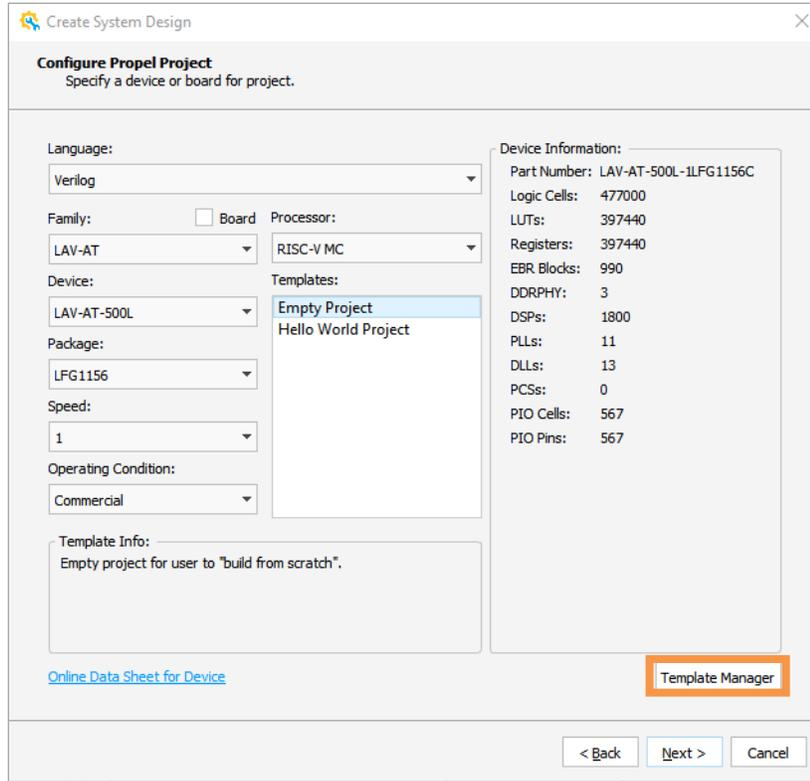
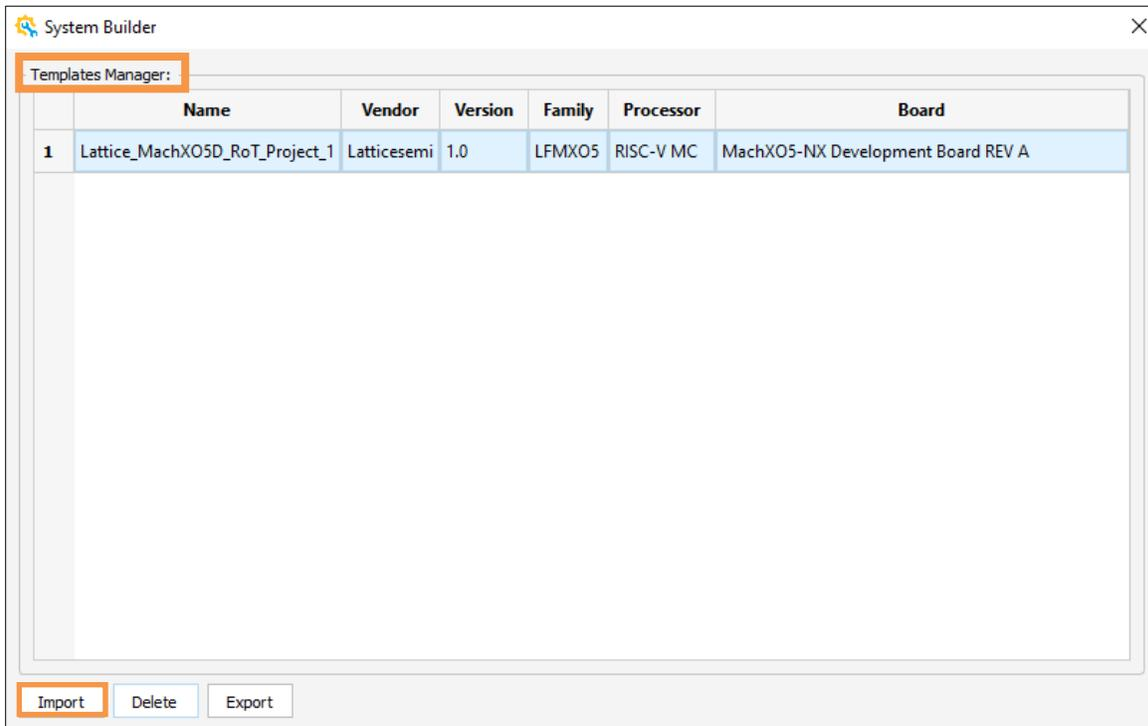
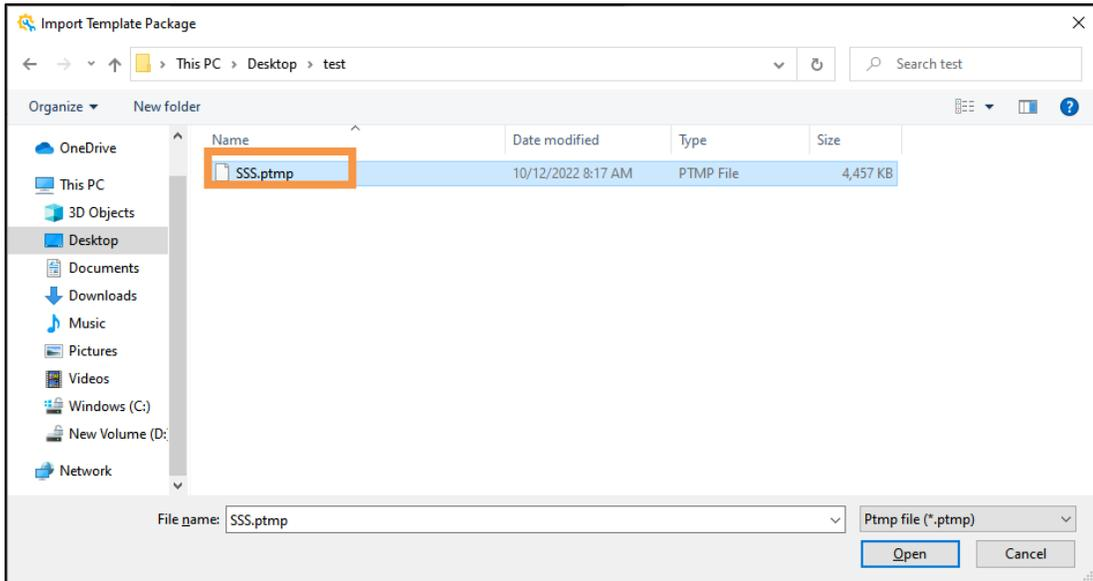

Figure 2.124. Template Manager Entry
Figure 2.125. Templates Manager Page
Figure 2.126. Import a .ptmp File
- You can import/delete/export a selected template in **Template Manager** when creating a new system design (Figure 2.124 and Figure 2.125).
1. Click **Import** (Figure 2.125), and then choose the desired .ptmp file (Figure 2.126).